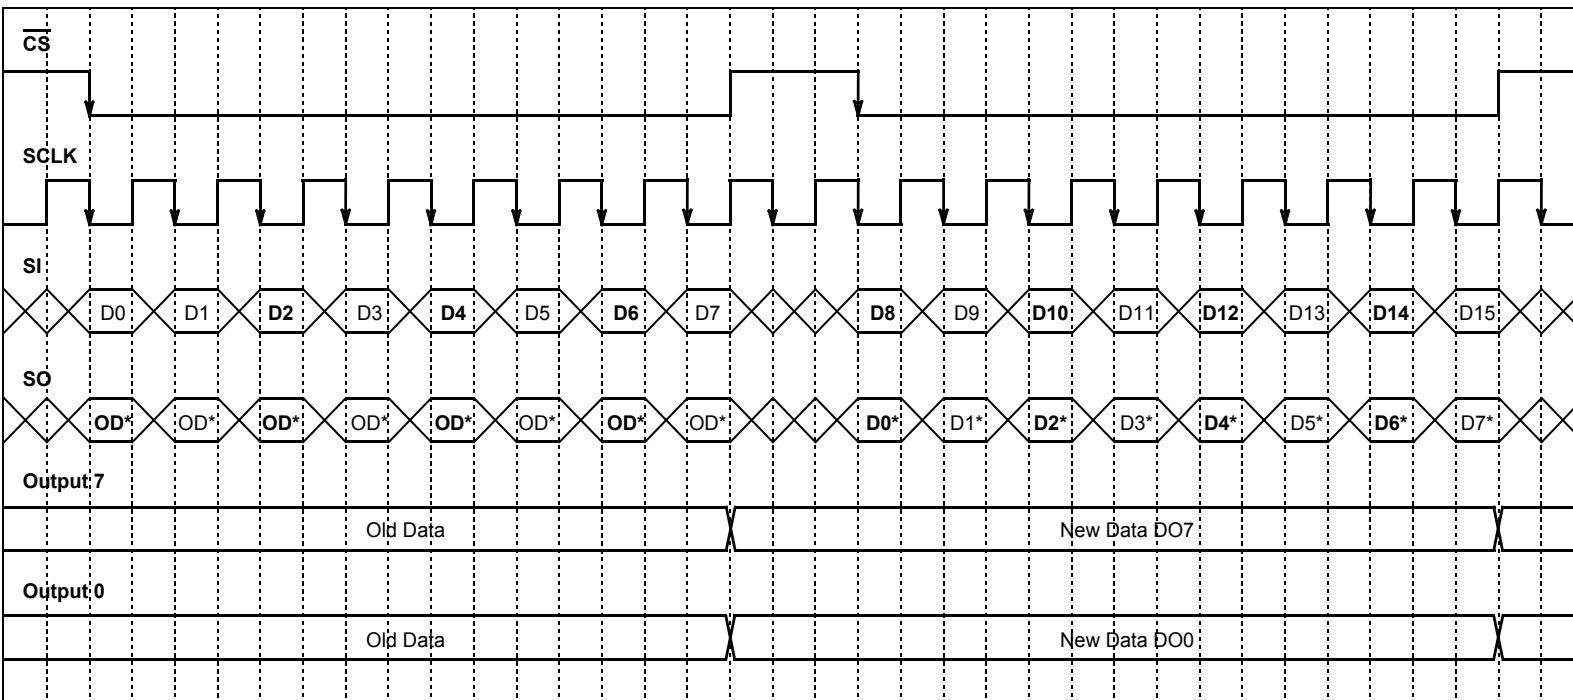

Figure 17. Data Transfer Timing
absolutely necessary, the SCLK pin be kept in a low logic state as long as the device is not accessed (\overline{CS} in logic high state). When \overline{CS} is in a logic high state, signals at the SCLK and SI pins are ignored and SO is tri-stated (high impedance). See the Data Transfer Timing diagram in Figure 17, page 16.
To program the eight outputs of the 33291L ON or OFF, an 8-bit serial stream of data is required to be synchronously entered into the SI pin starting with Output 7, followed by Output 6, Output 5, and so on, to Output 0. Referring to Figure 17, the DO bit is the most significant bit (MSB) corresponding to Output 7. For each rise of the SCLK signal, with \overline{CS} held in a logic low state, a data-bit instruction (ON or OFF) is synchronously loaded into the Shift register per the data-bit SI state. The Shift register is full after eight bits of information have been entered. To preserve data integrity, care should be taken to not transition SI as SCLK transitions from a low-to-high logic state.
The serial output (SO) pin is the tri-stateable output from the Shift register. The SO pin remains in a high impedance state until the \overline{CS} pin goes to a logic low state. The SO data reports the drain status, either high or low relative to the previous command word. The SO pin changes state on the rising edge of SCLK and reads out on the falling edge of SCLK. When an output is OFF and not faulted, the corresponding SO data-bit is a high state. When an output is ON, and there is no fault, the corresponding data-bit on the SO pin will be a low logic state. The SI/SO shifting of data follows a first-in-first-out (FIFO) protocol with both input and output words transferring the MSB first. Referring to Figure 17, the DO bit is the MSB corresponding to Output 7 relative to the previous command word. The SO pin is not affected by the status of the \overline{RST} pin.
The MCU can perform a parity check of the fault logic operation by comparing the command 8-bit word to the status 8-bit word. Assume after system reset, the MCU first sends an 8-bit command word to the 33291L. This word is called Command Word 1. Each output to be turned ON will have its corresponding data bit low. Refer to the data transfer timing illustration in Figure 17.
As Command Word 1 is being written into the Shift register of the 33291L, a status word is being simultaneously written and received by the MCU. However, the word being received by the MCU is the status of the previous write word to the 33291L, Status Word 0. If the command word of the MCU is written a second time (Command Word 2 = Command Word 1), the word received by the MCU, Status Word 2, is the status of Command Word 1. The timing diagram illustrated in Figure 17 depicts this operation. Status Word 2 is then compared with Command Word 1. The MCU will Exclusive OR Status Word 2 with Command Word 1 to determine if the two words are identical. If the two words are identical, no faults exist. The timing between the two write words must be greater than 100 μs to receive proper drain status. The system data bus integrity may be tested by writing two like words to the 33291L within a few microseconds of each other.